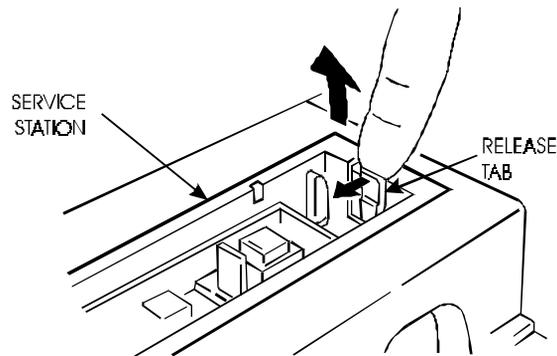

Figure 5-20. Service Station Removal.
3. Reach into the Right Cover and pull back on the Service Station release tab located on the far side of the Service Station. See Figure 5-20.